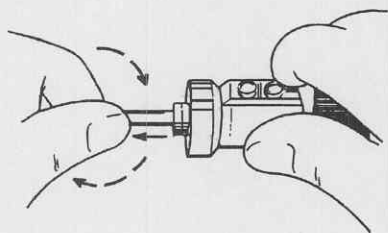

Figure 2-23. Cutter/bur removal for cleaning.
(1) Ensure the electrical power cable assembly is disconnected from the electrical wall receptacle and the APS.
(2) Wipe the APS console with a cloth or sponge dampened with water, a mild detergent, or an alcohol/water solution. Do not use 100% alcohol or other solvents that may damage APS console front panel markings. Do not immerse it in a liquid.
(3) Dry the APS console with a clean soft cloth.
(4) Remove the cutter or bur (fig 2-23) from the handpiece before cleaning.